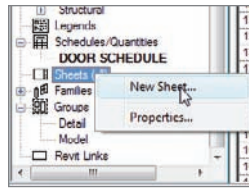

FIGURE 11.14 Creating a new sheet
1. In the Project Browser, find the Sheets (All) category, as shown in Figure 11.14. Coincidentally, it is located directly below DOOR SCHEDULE.
3. Select New Sheet (see Figure 11.14).